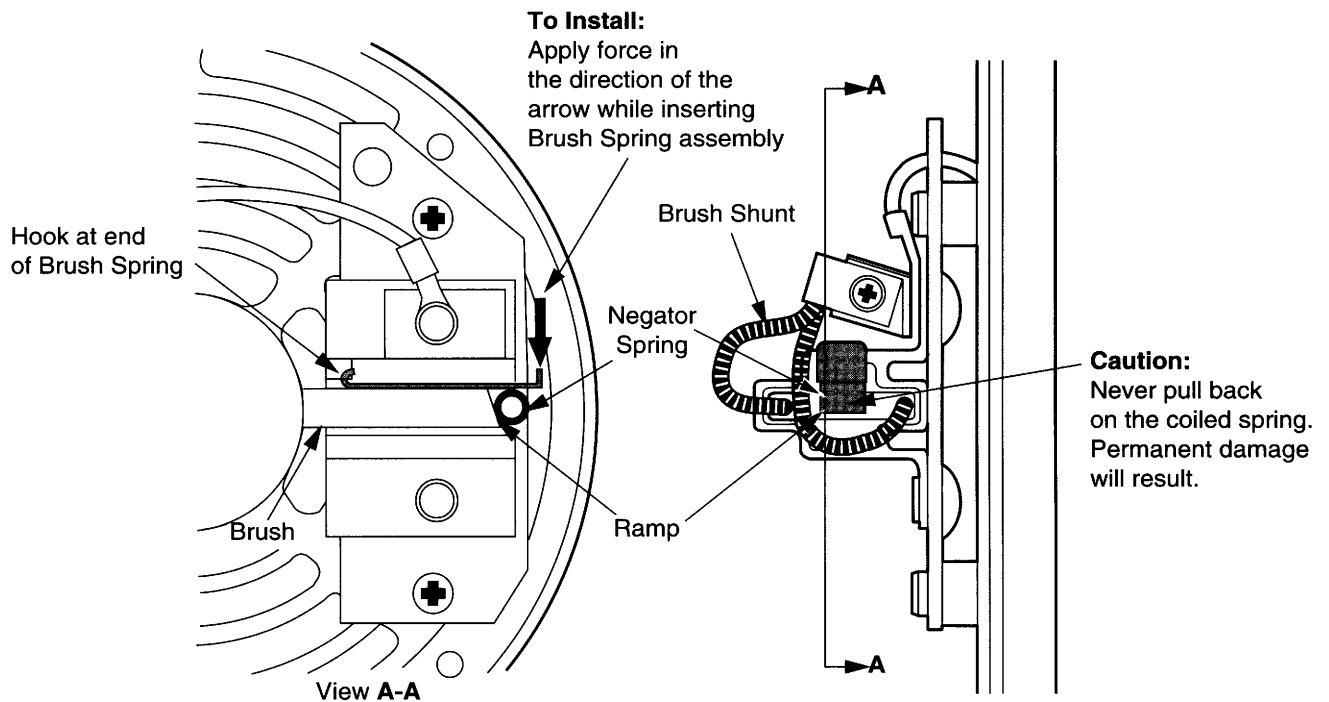

Figure 4 Brush removal / installation, Negator style spring
10. While installing the negator spring you will need to apply force towards the brush (see Figure 4) to ensure the hook on the end of the spring engages with the brush holder.